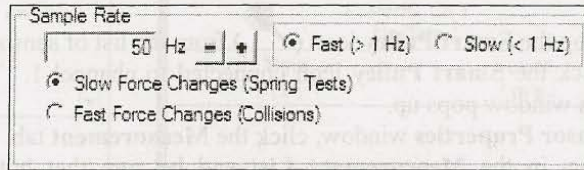

Figure 6.4-2: Adjust the force sensor sampling rate.
- On the **General** tab of the sensor properties window, set the sampling rate to 50Hz by clicking the **+** button. See Figure 6.4-2.